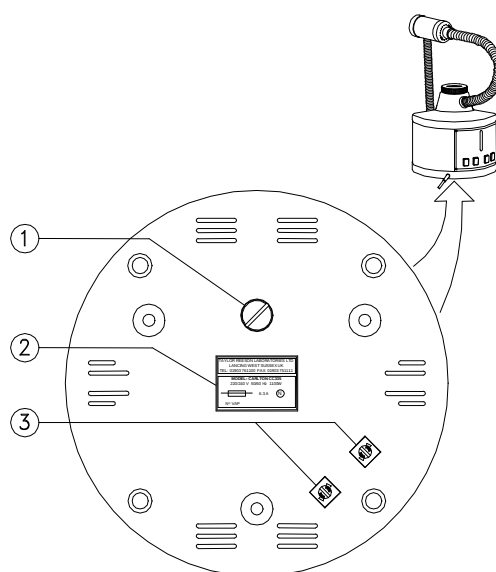

Figure 6 : bottom of Vapouriser
There are two fuseholders on the bottom of the Vapouriser (Figure 6 item 3). Should a fuse blow, it is possible to replace it with fuses in accordance with the details given in Chapter 7 on page 8 of this manual. This situation is, in any case, due to an abnormal event and you are strongly advised to contact an authorised agent to identify and eliminate the problem.
The round drain plug is also on the bottom of the Vapouriser (Figure 6 item 1), which is used to empty the boiler for routine maintenance (see Chapter 5.2 page 7).
With reference to Figure 6 :